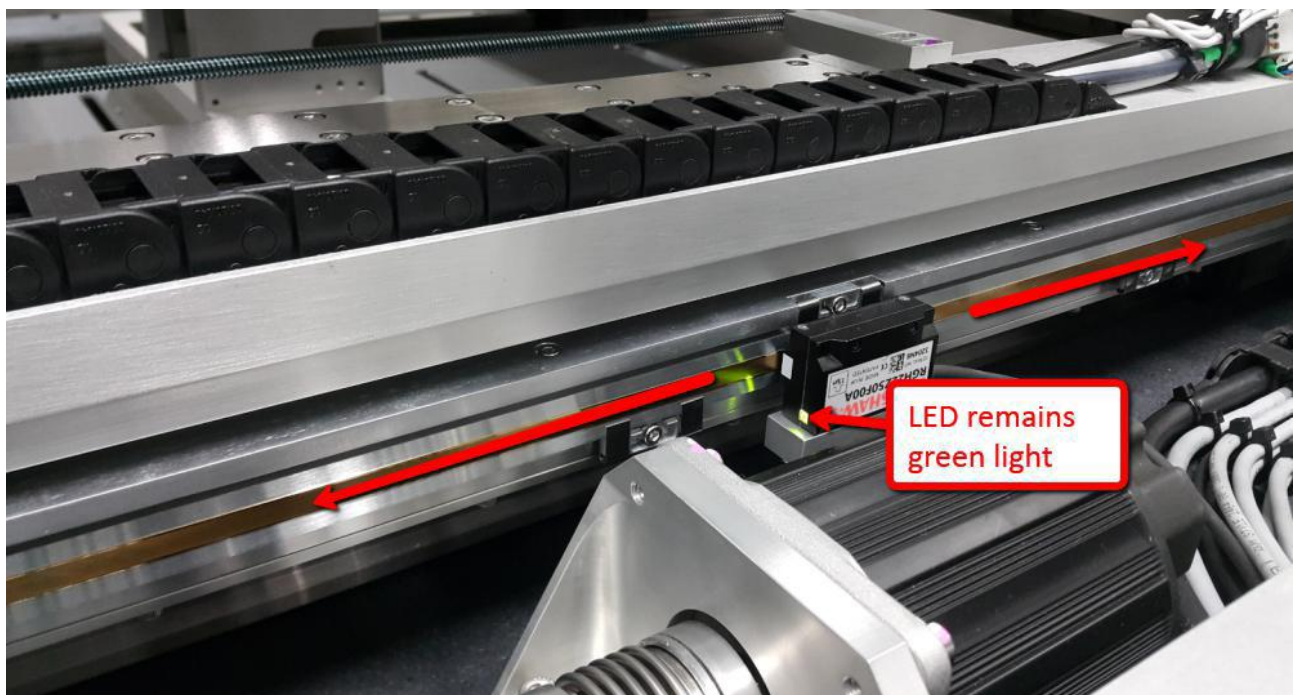

Figure 13 Y-Axis encoder checking
7. Move Y-Axis stage to minimum hard stop (front side) and maximum hard stop (rear side). Visual check Y-Axis encoder which require green light illuminated along the way as shown in Figure 13. If adjustment require, May refer to “AXI V810 Y-Axis Read Head Encoder Replacement Procedure”.